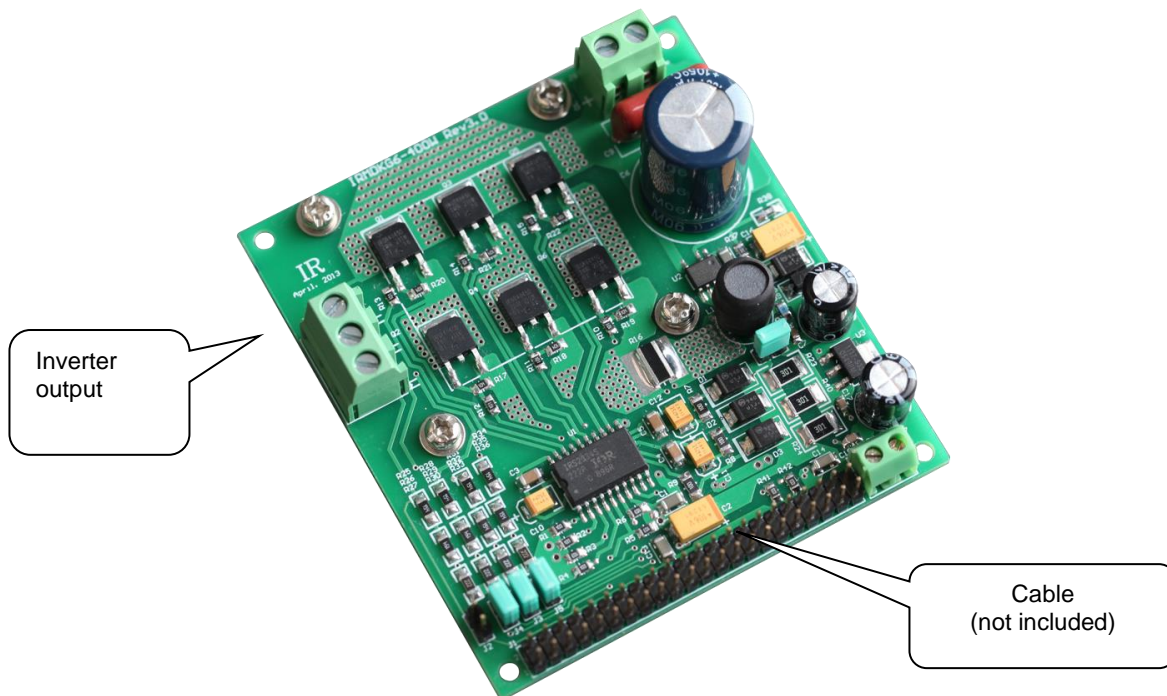

Figure 1 - Connection of control signals to the Dpak/D2PAK board
1. Connect the system as in Figure 1